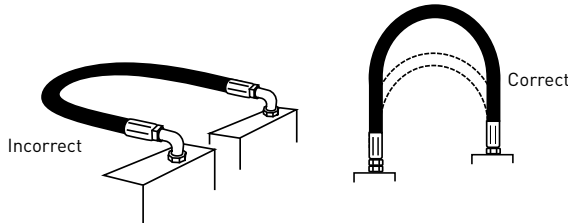

FIGURE 6 — BEND IN ONLY ONE PLANE TO AVOID TWISTING
5.24 Hose Movement and Bending – Hose allows relative motion between system components. Analyze this motion when designing hose systems. The number of cycles per day may significantly affect hose life. Also avoid multiple planes of motion and twisting motion. Consider the motion of the hose when selecting hose and predicting service life. In applications that require hose to move or bend, refer to Figures 6 and 7; and use these practices: